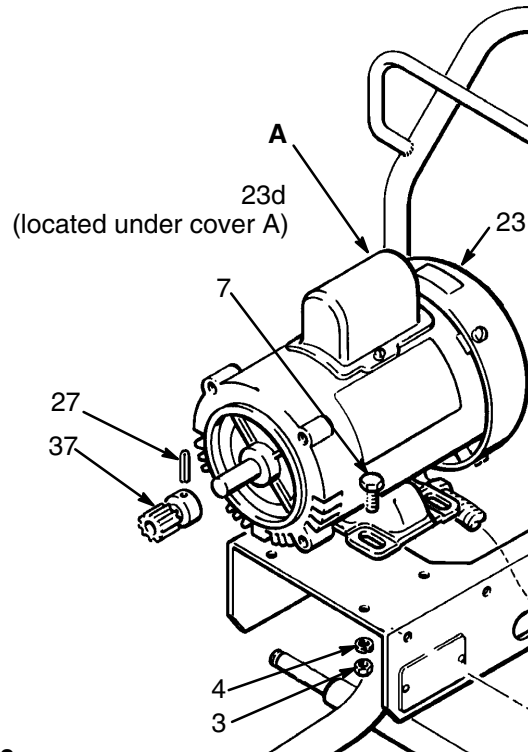

Fig 18
1. Remove the cover (A) of the capacitor. See Fig 18. Remove the flag connectors from the old capacitor (23d). Connect the flag connectors of the new capacitor and replace the cover.
3. Drive out the pin (27) and remove the gear (37). See Fig 18.